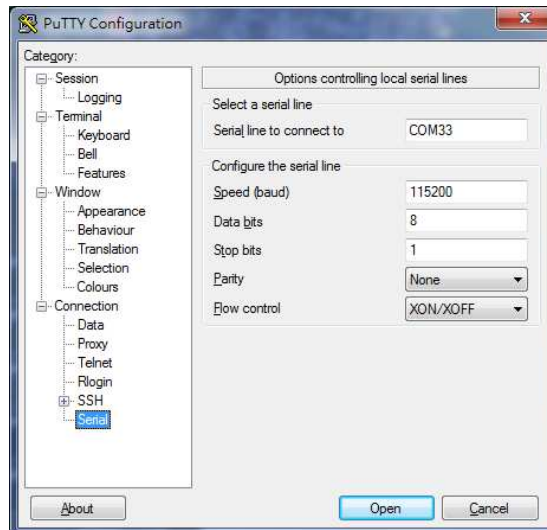

Figure 2-10 UART Configuration in PuTTY
3. The UART settings are provided below in case a connection from the PC is used. **Figure 2-10** shows the screen shot of UART configuration in Putty utility.